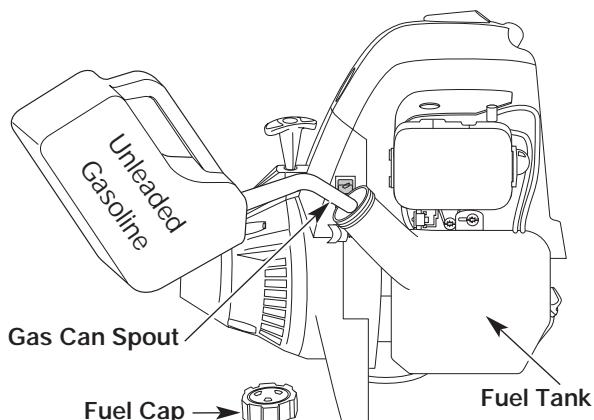

Figure 19
2. Place the gas container's spout into the fill hole on the fuel tank and fill the tank. See Figure 19.